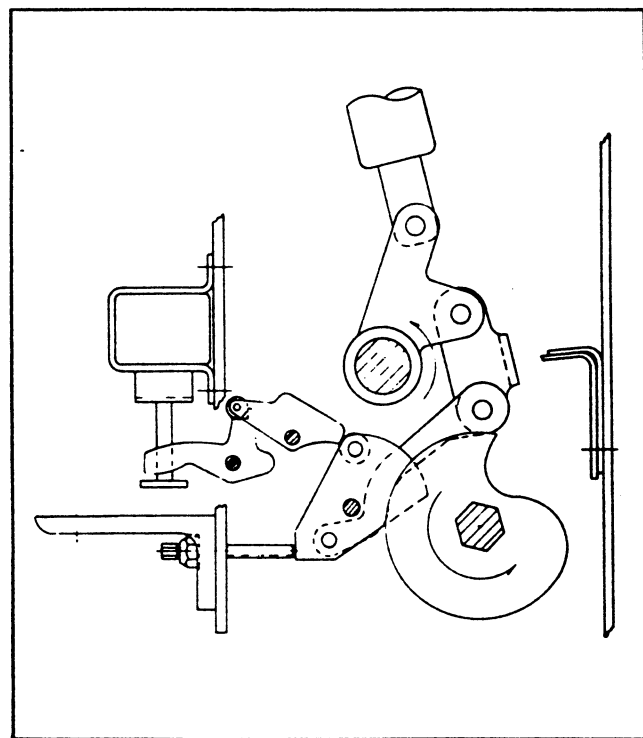

Fig. 8c Breaker Closed and Spring Charged
8. Although Figs. 8c and 8d have not been utilized in describing the trip latch adjustment procedure, they have been included to show the position of the mechanism parts for all breaker "closed" conditions. The revised Figure 8 may be used in conjunction with the description of the Stored Energy Mechanism on Pages 11 and 12 of I.B. 32-253-2.